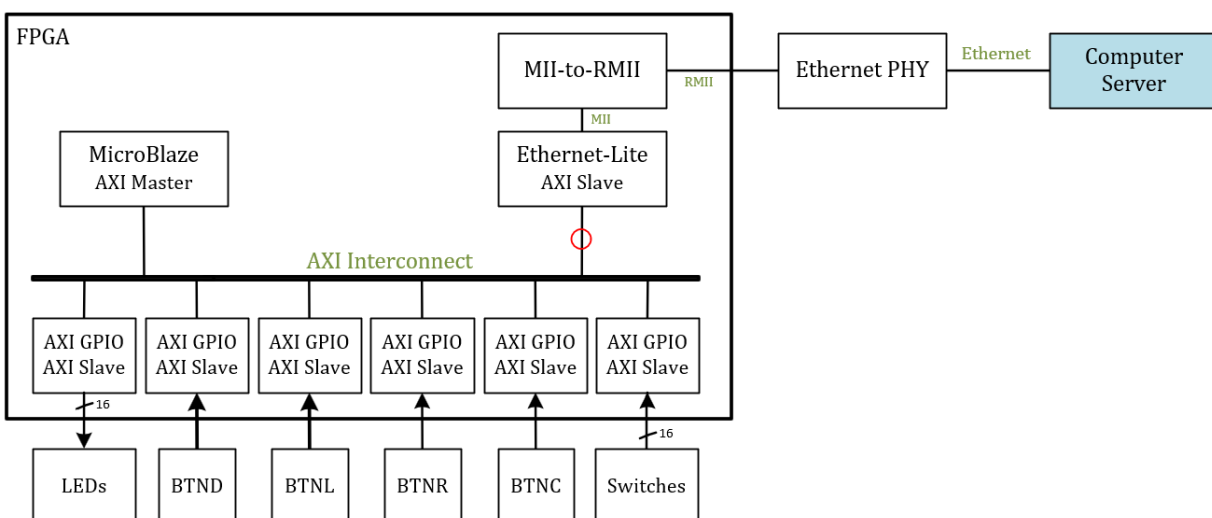

Figure 1: Block diagram of the project. Red circles indicate probe points for ILAs
In Tutorial 5, you were directed to a Digilent tutorial that instructed you on how to build a TCP echo server on the Nexys DDR board. Tutorial 5 later described how to modify the code of that tutorial to turn the system into a TCP client instead. In this warm-up demo, you will be required to build the TCP client system again, with modifications. In particular, you will need to add additional peripherals to your system, and interface with them in software, to determine the contents and timing of your sent packets. In addition, this warm-up demo will have you include an ILA hardware debugger module to demonstrate your knowledge and ability to perform that level of system debugging. The system has the configuration shown in Figure 1:
- Note - The diagram in Figure 1 shows six separate AXI GPIO blocks instantiated, though you may instantiate as few or as many as you like, so long as all of the requisite buttons and LEDs are connected and accessible from the AXI Interconnect.
- (b) Add an Integrated Logic Analyzer (ILA), as described in Tutorial 4, to the AXI connection indicated by the red-circle in Figure 1 (The AXI input to the EthernetLite core).